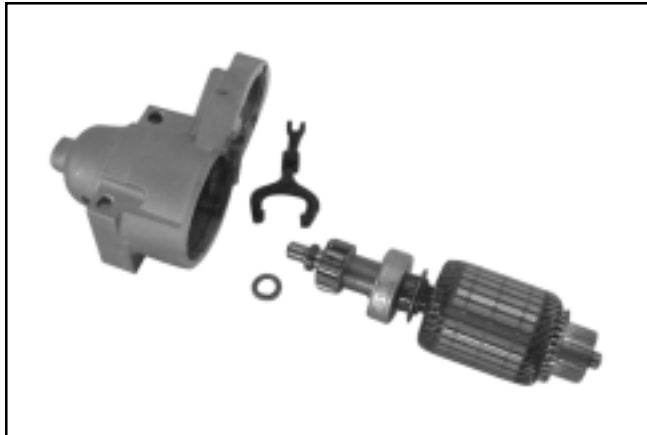

Figure 8-45. Armature and Lever Removed.
8. Take out the drive lever and pull the armature out from the drive end cap. See Figure 8-45.
9. Remove the thrust washer from the armature shaft. See Figure 8-45.